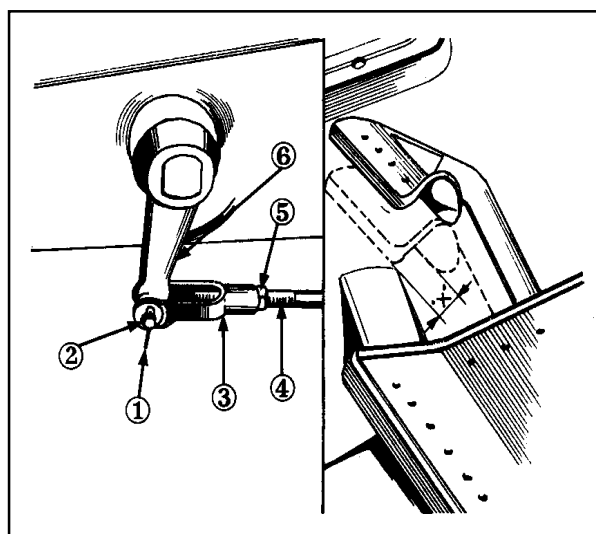

Figure 2
The only routine adjustment required is to check and, where necessary, adjust the clutch pedal free travel every 50 operating hours. The exact amount of free travel is listed under "Specifications". Clutch pedal free travel is the amount of movement from the fully released position of the pedal to the point where resistance is just felt dimension "X" Figure 2.
1. Remove the split pin, Figure 2, loosen the locknut and then remove the clevis pin.
3. Re-connect the clevis to the clutch cross-shaft lever, Figure 2 and check the pedal free travel. Repeat the adjustment as necessary until the correct free travel is obtained then tighten the locknut and install a new split pin to retain the clevis pin.